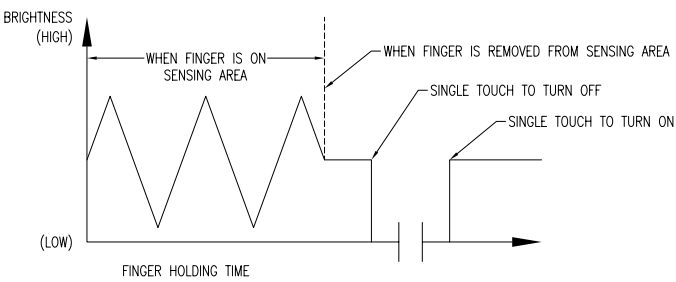

Fig. 1
- 1). On/Off: Use your finger to touch the sensor area shortly (single touch, ~0.5 seconds, see Fig.1)
- 2). Dimming: Continue to hold the finger on the sensor area. It will dim the lightbar brightness in a cycling pattern. Remove your finger when it reaches the desired brightness (see Fig.1).